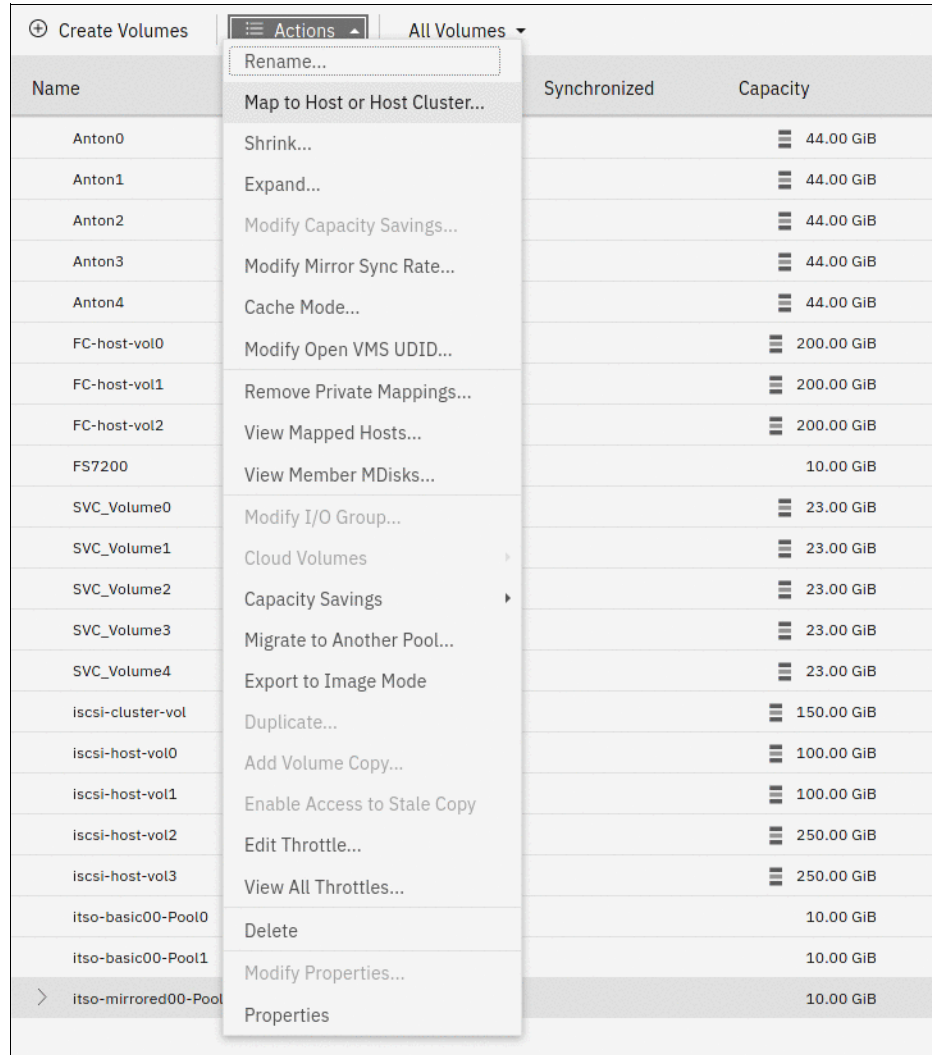

Figure 6-58 Volume mapping menu item
1. From the **Volumes** menu, select the volume that you want to modify. Select **Actions** → **Map to Host or Host Cluster...**, as shown in Figure 6-58 on page 359.